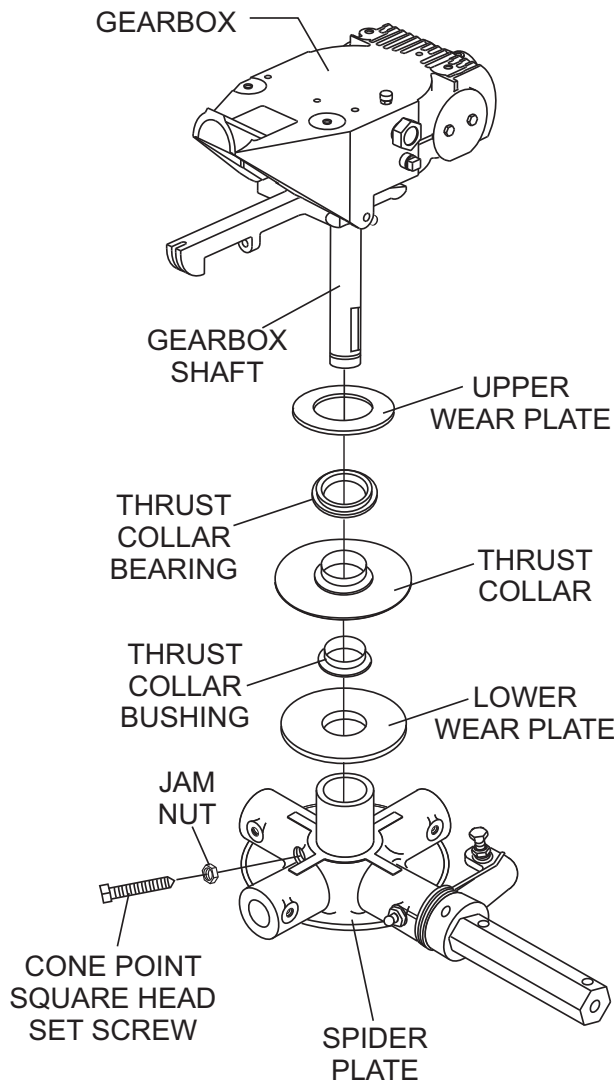

Figure 40. Spider/Gearbox Removal
1. Locate the cone point square head set screw (Figure 40) and attached jam nut found on the side of the spider assembly.